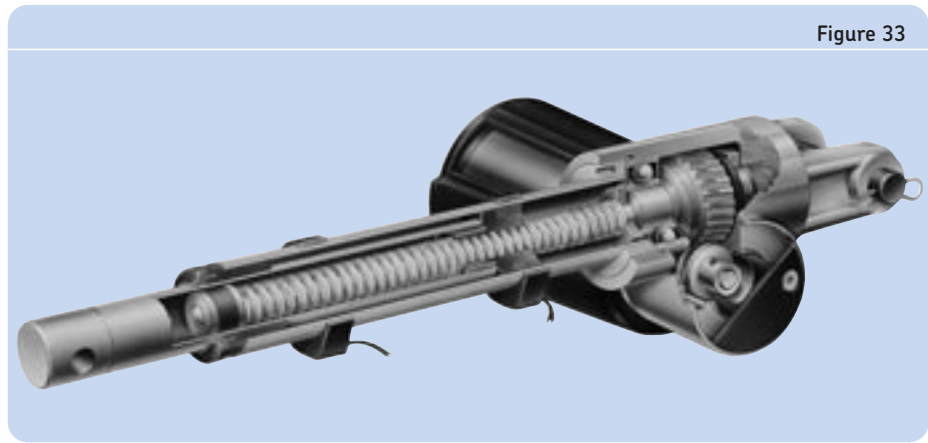

Figure 33
**Properties of the sliding screw (→ figure 33)**